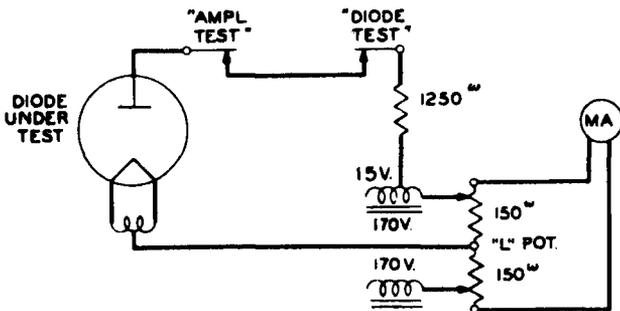

Fig. 4 - Diode Test Circuit
2.20 When testing the diode section of a multi-purpose tube, or small hot cathode diodes, the circuit (Fig. 4) is the same as described in Paragraph 2.19 except that the